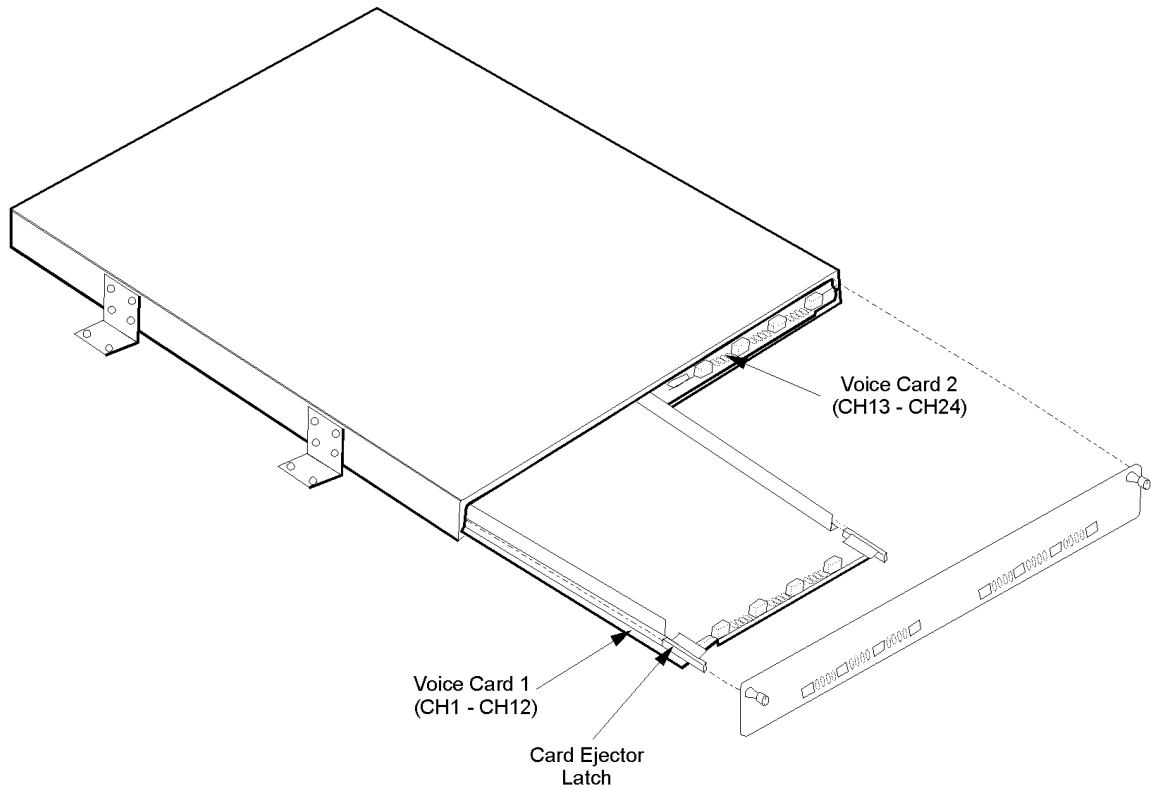

Figure 8-4. Accessing the BRFXS/DPO Card(s)
1. Release the two thumbscrews on the ABI back plate and remove the plate (see **Figure 8-4**).
2. To remove the FXS slide-in voice card, pull out the two card ejector latches simultaneously to release the card from the internal connector, then slide the card carefully out from the rear of the ABI chassis (see **Figure 8-4**).